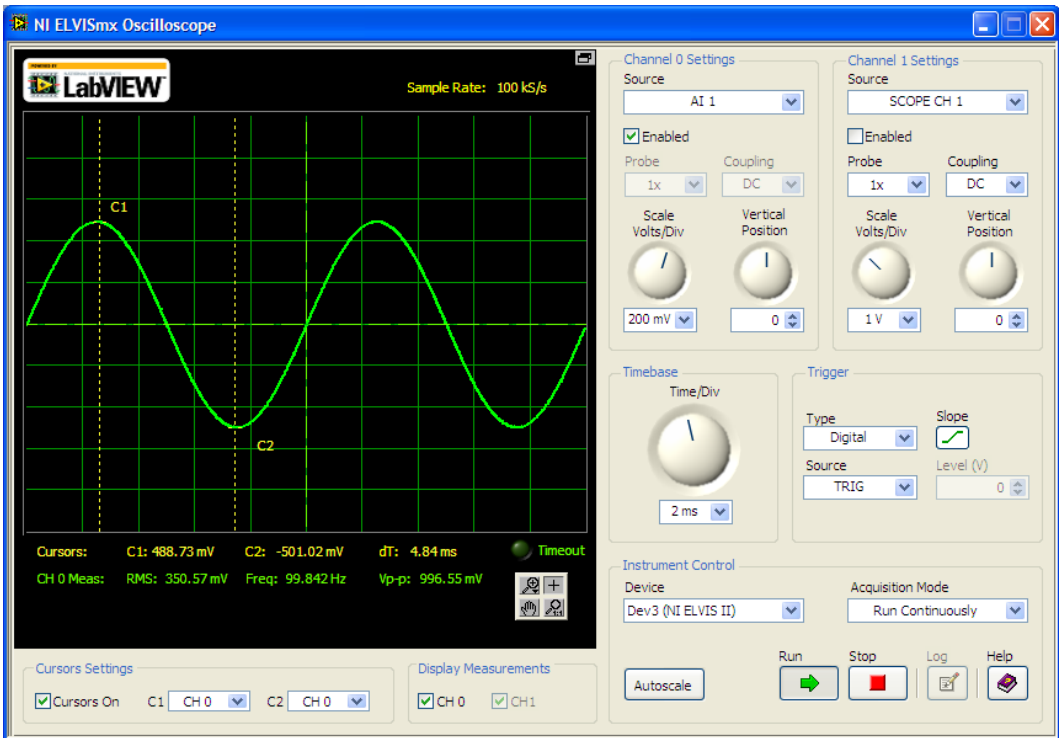

Fig. 15. NI Elvis Oscilloscope showing the input waveform on Channel 0.
10. This input signal originates from FUNC\_OUT. The corresponding SYNC signal is TRIG. In TRIGGER section, select TRIG option. The output should now appear as shown in Fig. 15. This is the input signal for our RC circuit.